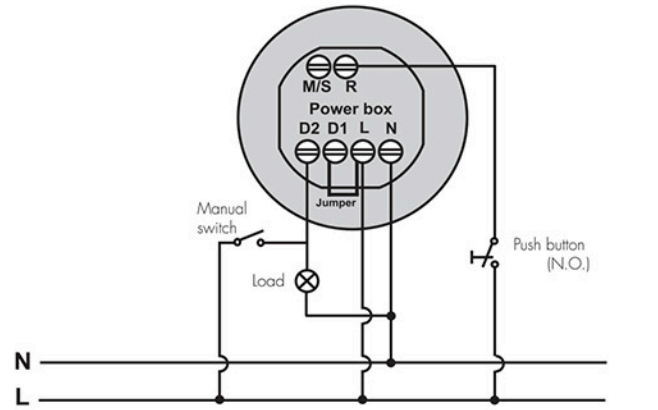
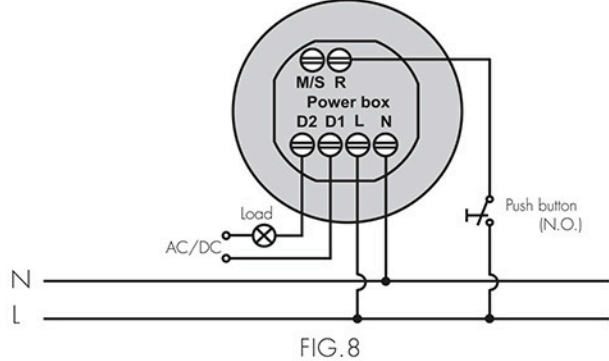

FIG. 6
FIG. 8
Connect terminal R with push button (N.O. type) to manually control the load's on / off. When the load is off, press (>1sec) the push button (N.O. type) to manually switch the load on. The load keeps on if the movement is detected constantly. The load can be automatically switched off if no movement is detected and the delay time has expired, or by pressing the push button again. When the load is off, the move-ment cannot trigger the load on, and the detector will return to the previous mode until detecting the last movement and the delay time has expired. Refer to FIG.6 for wiring connection.
- 3.2.1.1 One detector controls one load (See FIG.6).
- 3.2.2 For HVAC (Remove jumper wire between D1& L terminals) (See FIG.8).
- 3.3.5 Assemble the detector head with the power box, and then refer to the wiring diagrams (See FIG.6 - FIG.8) for correct cable connections.